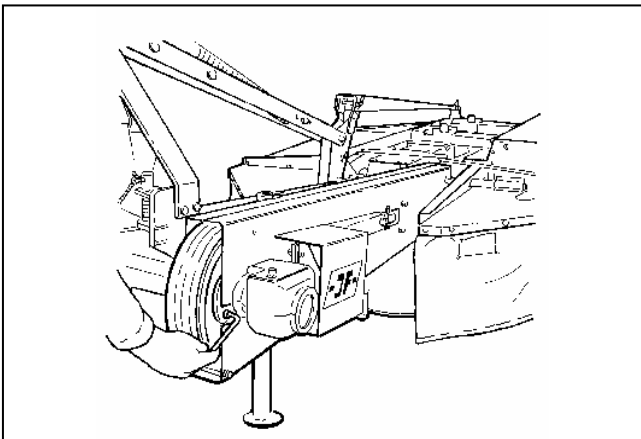

Fig. 31
- FIG. 31**      Mount the gearbox on the pulley (3 Allen screws).